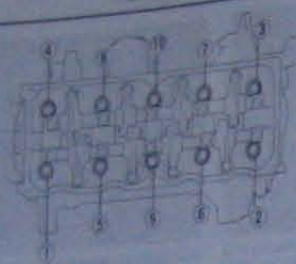

Fig. 2.14 Cylinder head bolt slackening sequence (Sec 22)
- Slacken the cylinder head bolts half a turn at a time in the order shown in Fig. 2.14. When all the tension has been relieved, remove the bolts and washers.